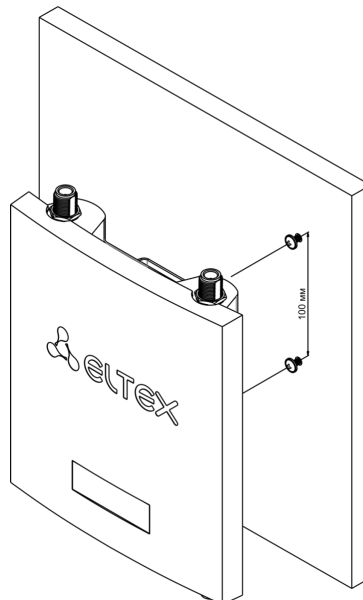

Figure 12 – Wall-mounting the device
2) Install screws on the wall leaving 100 mm distance between each screw as shown in the figure 12.